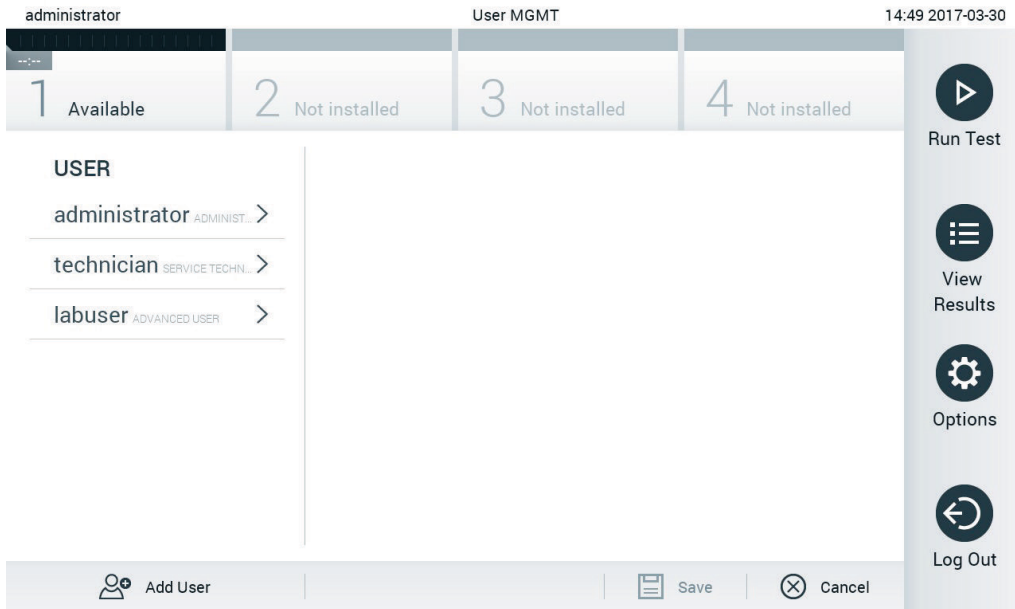

Figure 51. The User Management screen.
1. Press the **Options** button and then the **User Management** button to configure users. The **User Management** screen appears in the content area of the display (Figure 51, next page).